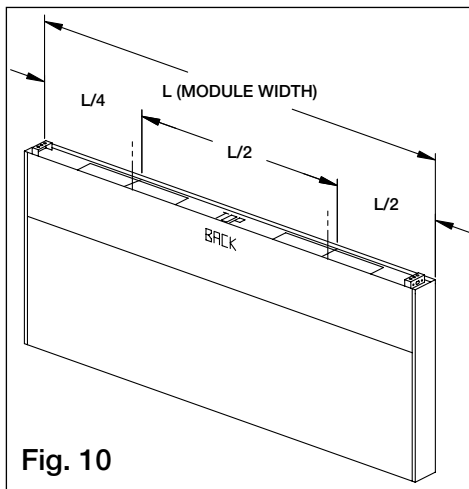

Fig. 10
3. If the Back Supply Plenum is greater than 9 ft. 10 in. (299.72 cm) long, divide the length of the back supply by four. This will give you the center of each half. Cut openings at the suggested location, centering the duct collar over the center measurement of each half. (Fig. 10)